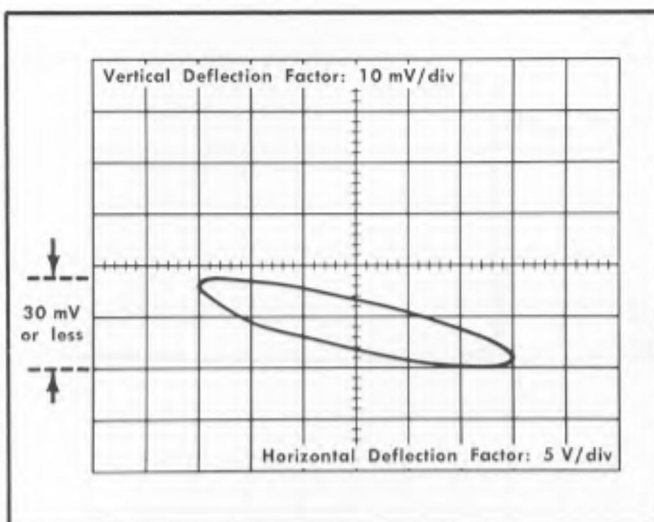

Fig. 5-31. Checking common-mode rejection by applying 60-Hz sine waves ac coupled to the Type 3A7 and measuring the X-Y display vertical amplitude.
h. Check the display amplitude. It should be 30 mV or less (see Fig. 5-31) to obtain a CMRR requirement of 1000:1 for ac-coupled 60-Hz sine waves.